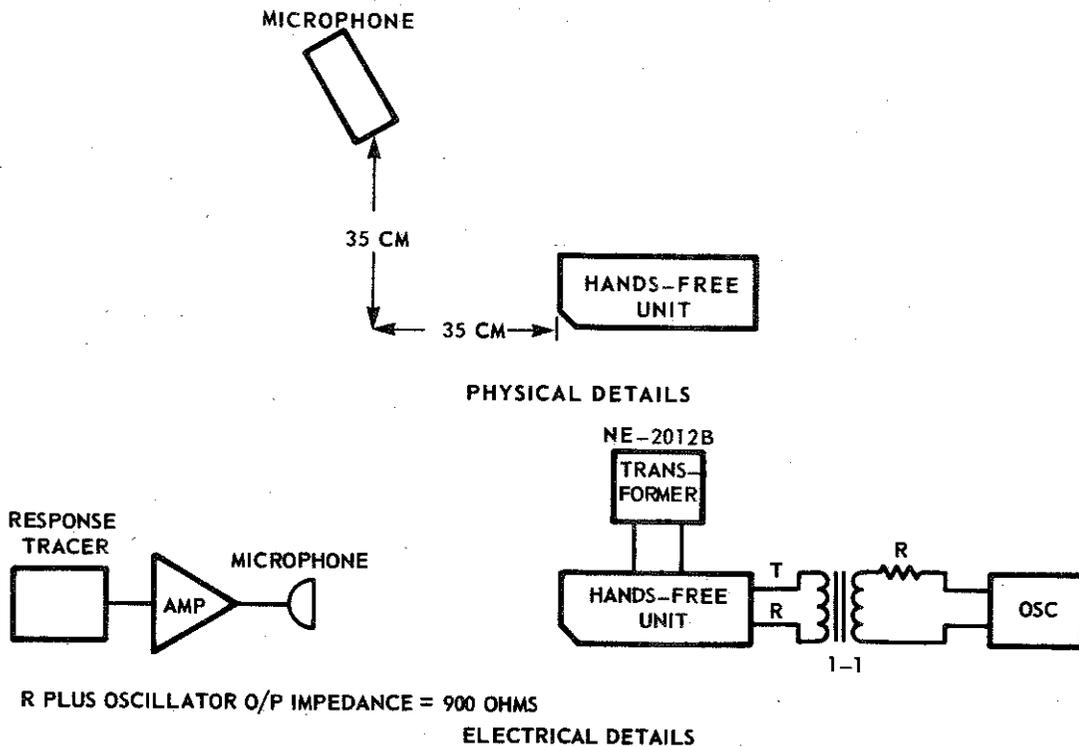
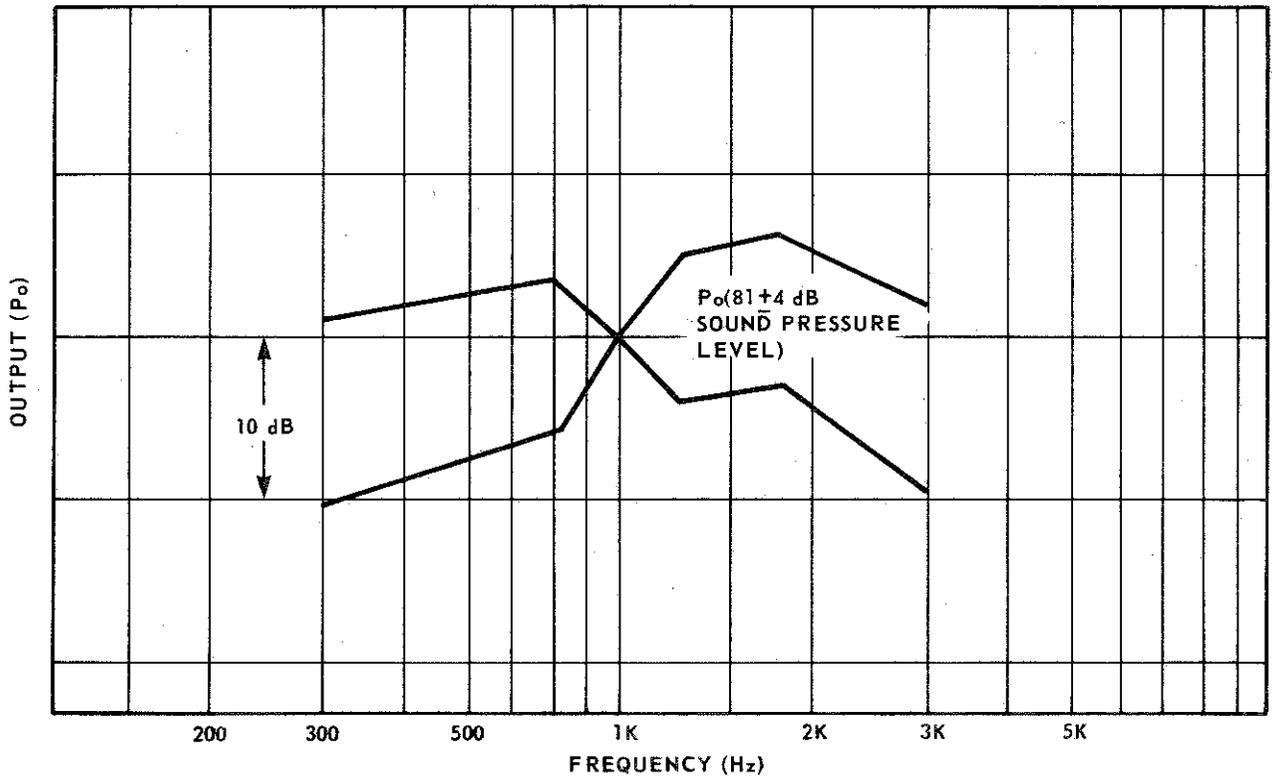
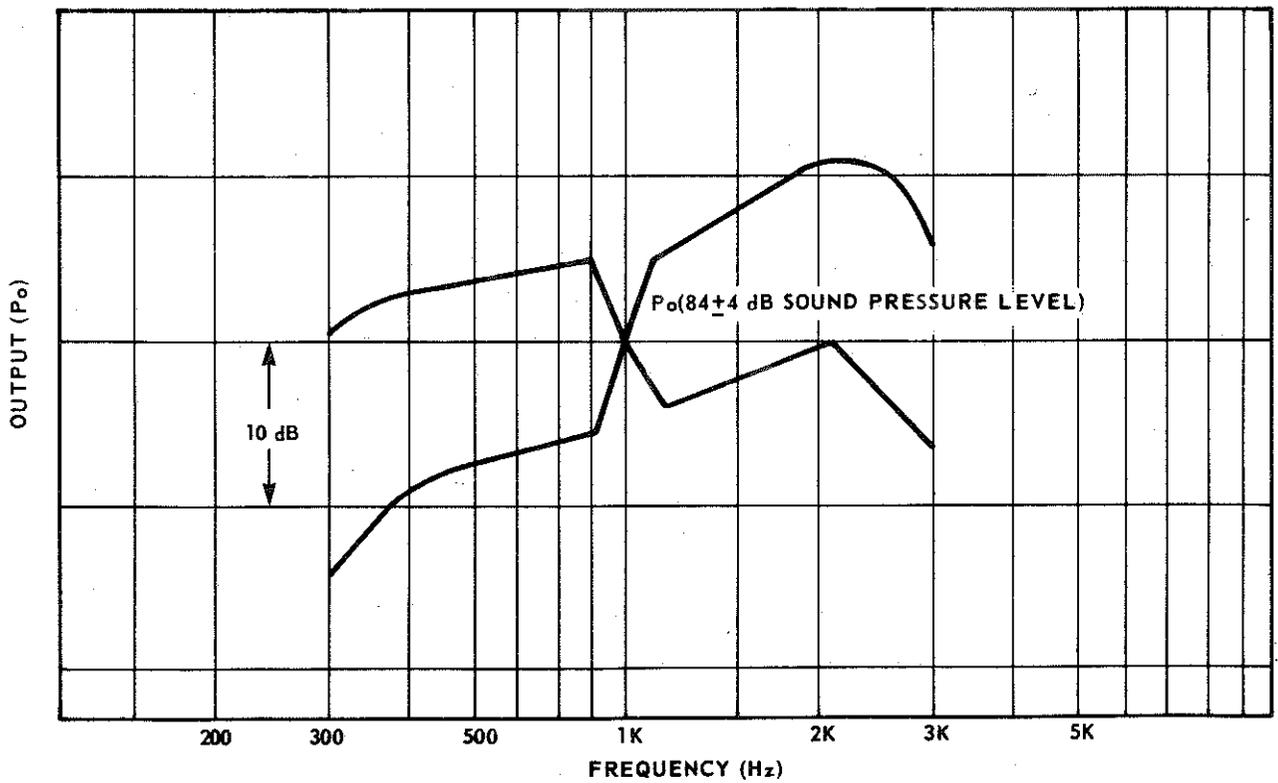

Fig. 33 — Acoustic Set-Up — Receiver
Fig. 34 — Receiving Frequency Response COMPANION 1 and COMPANION 2 HFU
Fig. 35 — Receiving Frequency Response LOGIC HFU
8.04 The receiving acoustic tests are described in Chart 16, Fig. 33, Fig. 34, and Fig. 35.